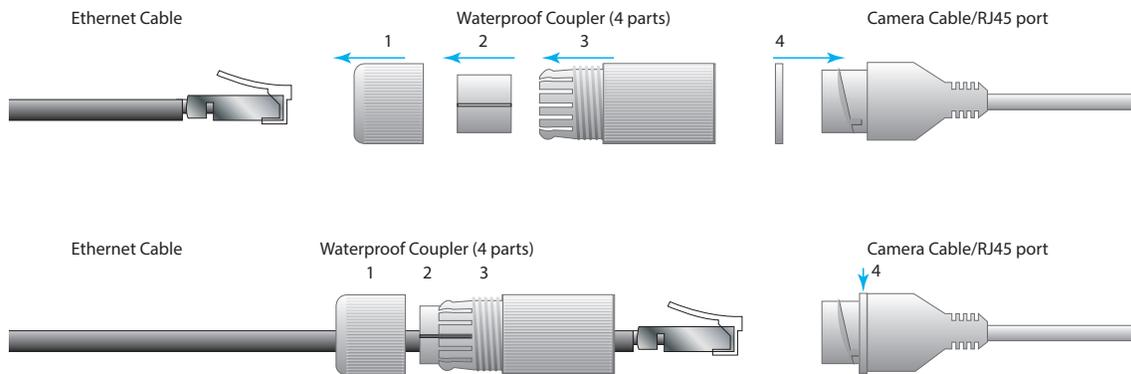

Fig. 7
- Install the four-piece waterproof coupler that came with the camera. Three pieces (1, 2, and 3) are installed over the Ethernet cable, while the fourth piece, the thin washer (4), is inserted over the RJ45 port of the camera cable. See Fig. 7.